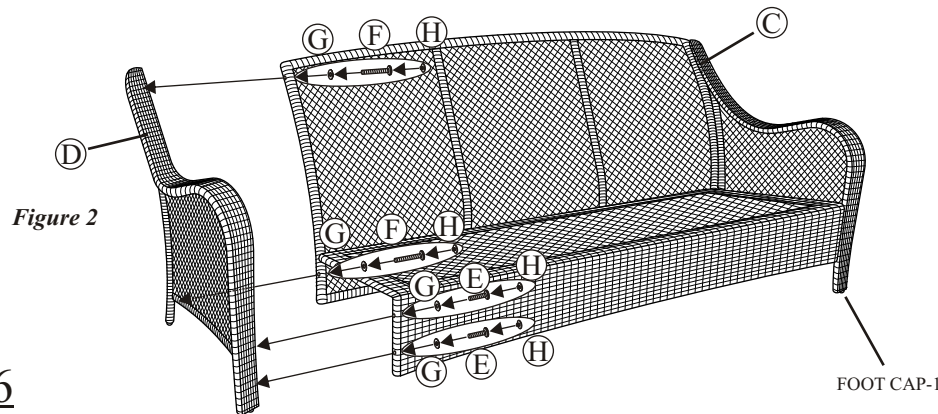

Figure 2
Step 3: Attach love seat arm by inserting two 5/16"x25 mm bolts with washers through the holes in front seat portion of the love seat frame and into the holes in the love seat arm shown in *Figure 2*. Attach back of love seat arm by inserting two 5/16"x40 mm bolts with washers through holes in the back portion of love seat frame and into the holes in the rear portion of the love seat arm as shown in *Figure 2*. **Hand tighten only.** Repeat for the opposite side.